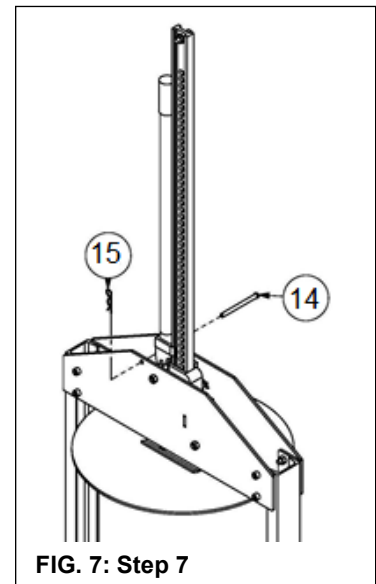

FIG. 7: Step 7
**Step 7:** Put the handle in an upright position. Insert the clevis pin (14) into the top holes of the jack plates when unit is not in use. Lock the pin in place with the hitch clip (15). See FIG. 7. The handle should also be secured whenever the compactor is not in use.
**Step A:** Free the jack handle by removing the storage pin (14). See FIG. 7 on p. 5. Turn the jack direction levers to UP position and fully raise the compactor plate. Refer to FIG. 9
**Step H:** Put the jack handle in the storage position and secure it with the clevis pin (11) and hitch pin (12). See FIG. 7 on p. 5.